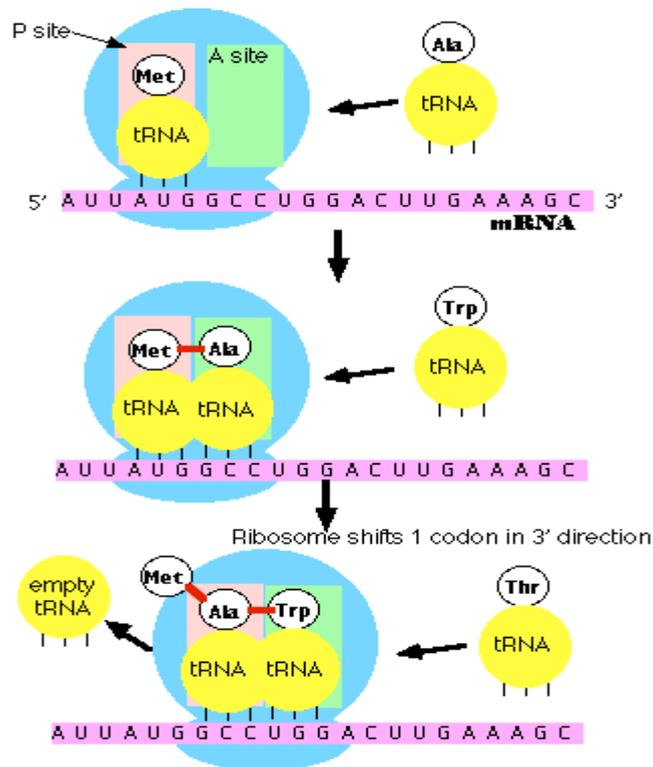
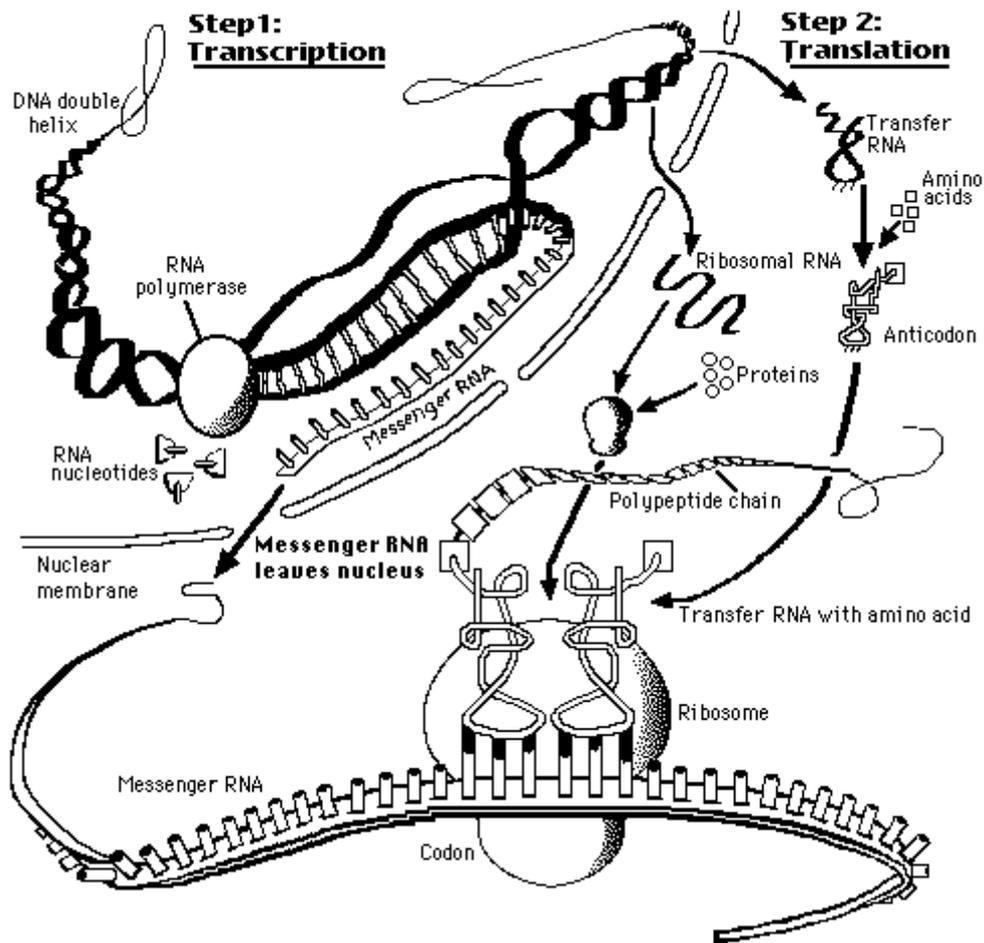

Figure 5: The translation of the mRNA by the tRNA, forming a new chain of amino acids and eventually a highly specific protein.
Figure 6: A summary of the complete process of protein synthesis.
A new molecule came under investigation, ribonucleic acid (RNA). The major differences between DNA and RNA was that RNA contained the sugar ribose and the nitrogenous base thymine (T) was substituted with uracil (U). Also the RNA molecule was single stranded and found mainly in the cytoplasm of the cell. RNA can be found as three differing structural forms (mRNA, tRNA & rRNA), each with a unique role to play in the production of proteins. Messenger RNA (mRNA) was first described by scientists in the 1960's. It was the mRNA that was encoded directly from the DNA via a process termed transcription (Fig4). Once in the cytoplasm, the mRNA is attached to the small subunit of a ribosome (Fig 4). Ribosomes are approximately 2/3 rRNA and 1/3 protein. Each ribosome is made of 2 subunits, a large and small subunit. In the smaller subunit only one type of rRNA occurs. In the large subunit, two types are found. Once the mRNA is attached to the small subunit of the ribosome the larger subunit attaches. Then a tRNA moves into the large subunit (Fig 5). This transfer RNA is a smaller molecule that adapts the DNA code to the protein code (Fig 4). In figure 4 the tRNA at its anticodon site of AGC codes for the amino acid alanine. The anticodon site of the tRNA binds to the appropriate codon of the mRNA. One tRNA has a recognition site specific to one amino acid. The production of a protein starts as the mRNA moves through the small subunit and the codons are converted into a chain of amino acids. This is a process called translation, whereby these chains of amino acids form a highly specific protein. A summary of the entire protein synthesis including transcription and translation can be seen in figure 6.